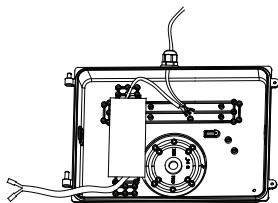

Figure 4
4. After installing the bottom plate, pull the outside wiring into the fixture by the waterproof connector, and tighten the screws on the connector. Make wiring connections per “Electrical Connections” section and make sure the good wire protection. (Figure 4)